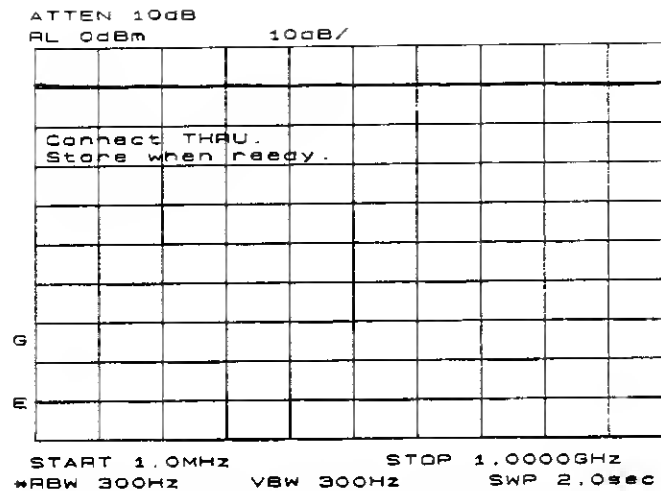
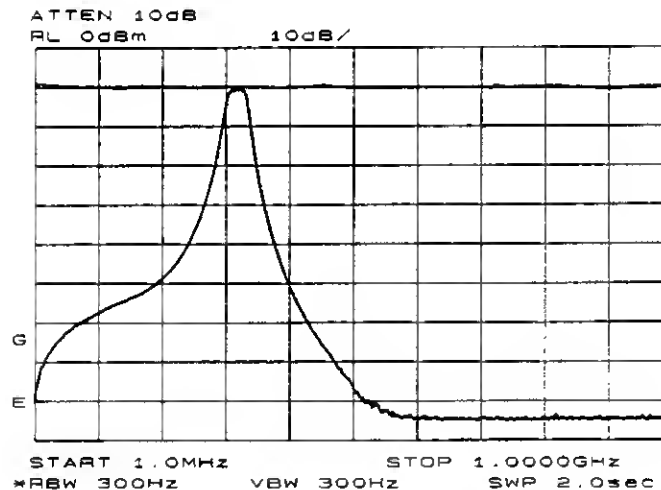

Figure 3-22. Guided calibration routines prompt the user.
Figure 3-23. The thru trace is displayed in trace B.
5. Calibration in a transmission measurement is done using a through (thru). To calibrate using a thru, press **AUX CTRL**, **TRACKING GENERATOR**, **SOURCE CAL MENU**, **CAL THRU**. The guided calibration routine prompts you to connect the thru, as illustrated in Figure 3-22. Connect the thru, and press **STORE THRU** when ready. When **STORE THRU** is pushed, the thru trace is stored into trace B and into an internal memory location in the analyzer. The state information of the thru-calibration trace is stored in state register #9. This trace can be recalled for future use. Figure 3-23 shows what appears on-screen after the thru trace is stored. Trace B is in view, depicting the thru trace.